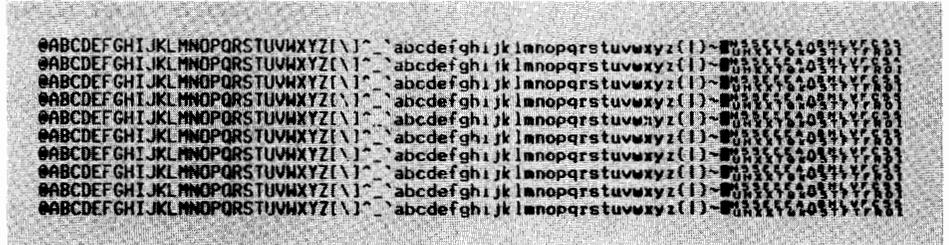

Figure 6-3. TPM Local Self-Test Pattern
5. Allow test to continue until printer error is firmly established by checking the print-out (figure 6-3) for missing or faulty characters.